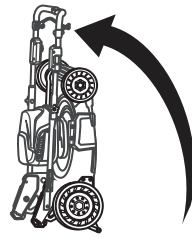

Fig. 13C
6. Store the mower flat or upright (Fig.13C)